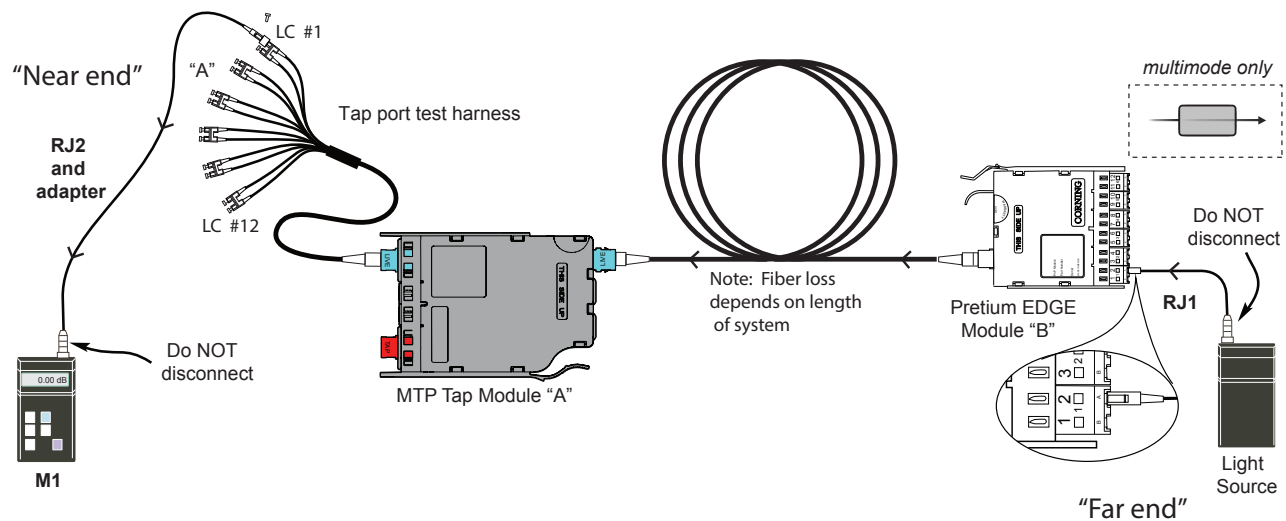

Figure 11
8.5. Table 3 provides a complete guide to the sequence for testing with the light source at Module “B”, or the “Far end” and the meter at the MTP Tap module “A” (“Near end”) of the system shown in Figure 11.
8.6 To begin testing the LIVE Portion of the MTP Tap module in the other direction (Figure 11):
Step 1: Install the **Light Source/RJ1 LC connector** into LC number 2 port of the Edge module (Module “B” in Figure 11).